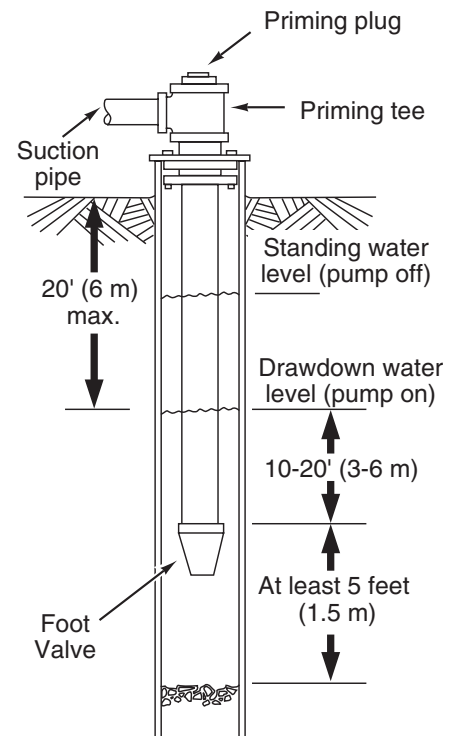

Figure 1 - Typical Cased/Dug Well Installation
5. When using foot valve, a priming tee and plug are recommended. (Figure 1).
NOTICE For long horizontal pipe runs or when using a foot valve, install a priming tee between check valve and well head (Figure 1). For driven point installations, install check valve. Be sure that check valve flow arrow points toward pump.